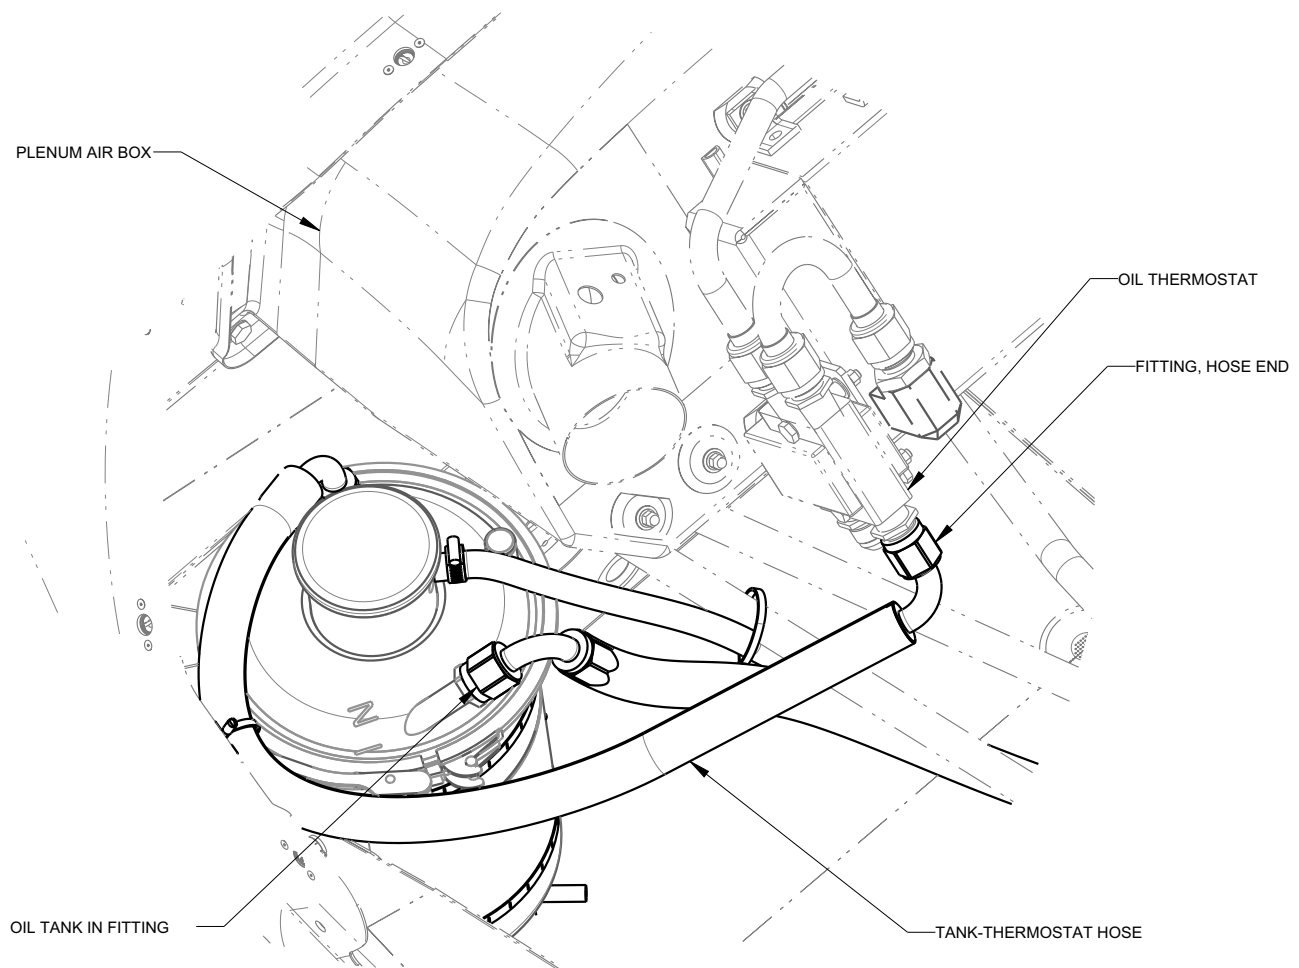

FIGURE 16-48
4. Use a 3/4 wrench to hold tank IN fitting while using a 7/8 wrench to loosen IN line fitting. Remove the oil return (engine-tank) hose from the oil tank. Cap openings. (See Figure 16-48.)
5. Use a 13/16 wrench to hold the union fitting in the thermostat and a 7/8 wrench to turn the B-nut to remove the tank-thermostat hose shown in Figure 16-48.
1. Secure the oil tank to the oil tank mount in the orientation shown in Figure 16-48 using 2X CLAMP, WORM DRIVE. Torque to 25-30 in-lbs.